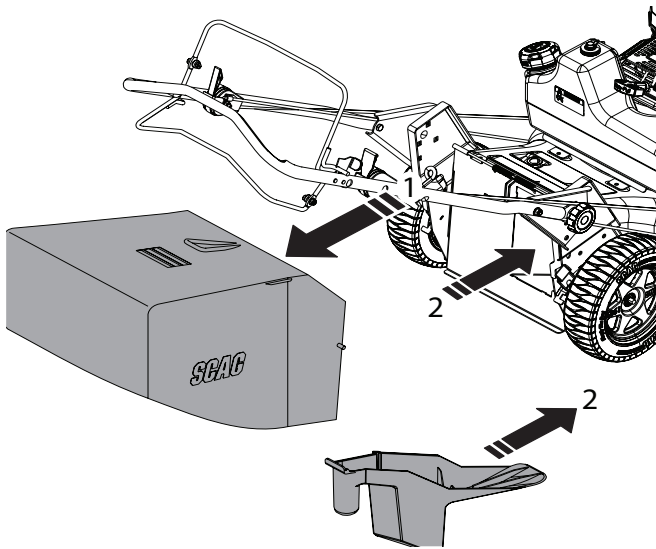

Figure 6-7. Mulch Conversion
1. Lift the rear cover and remove the grass collection bag from the mower. See Figure 6-7.
2. Insert the rear discharge plug into the cutter deck. See Figure 6-7.